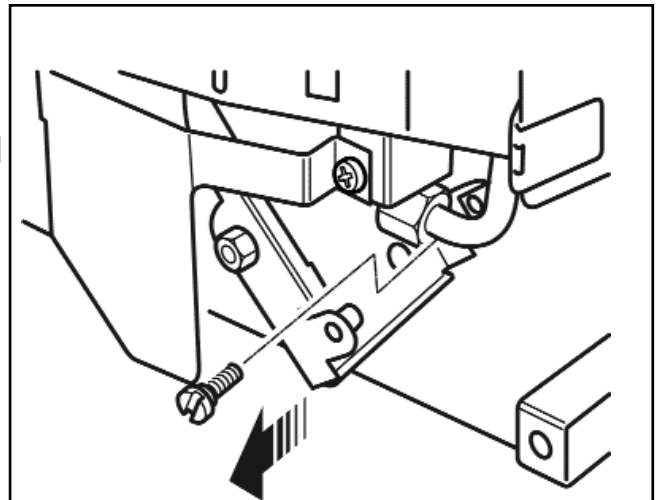

Figure 41. Control linkage disconnection (Burner detail may differ from that shown)
2. Detach the control-linking bar from the control pivot bracket by removing the knurled screw, which joins the control linking bar to the control pivot unit (See figure 41).